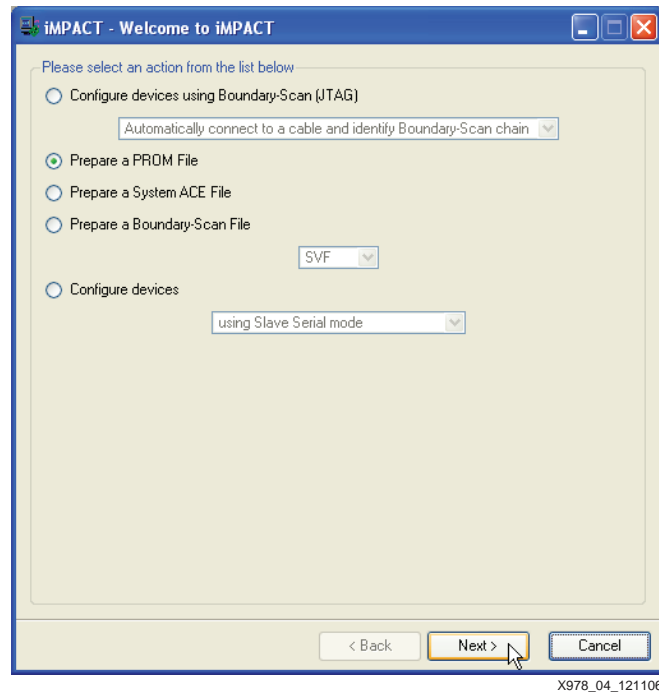

Figure 4: Welcome to iMPACT Screen
- In the Welcome to iMPACT dialog box, select the **Prepare a PROM file** option, as shown in Figure 4. Click the **Next** button.